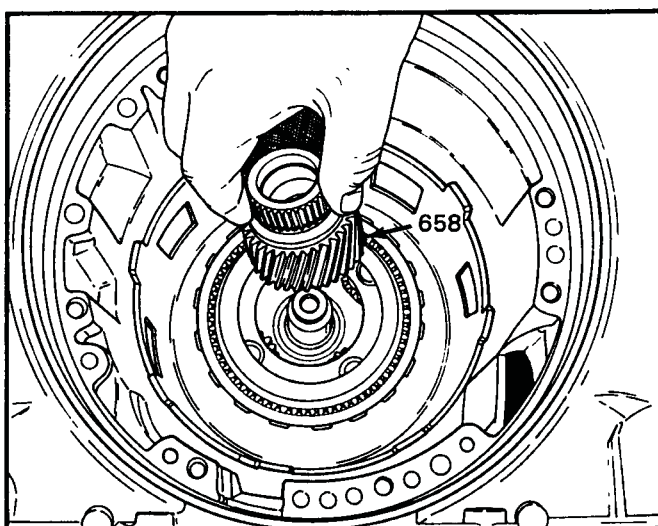

Figure 99
8. Install input sun gear as shown in Figure 99, by rotating into the carrier pinions.